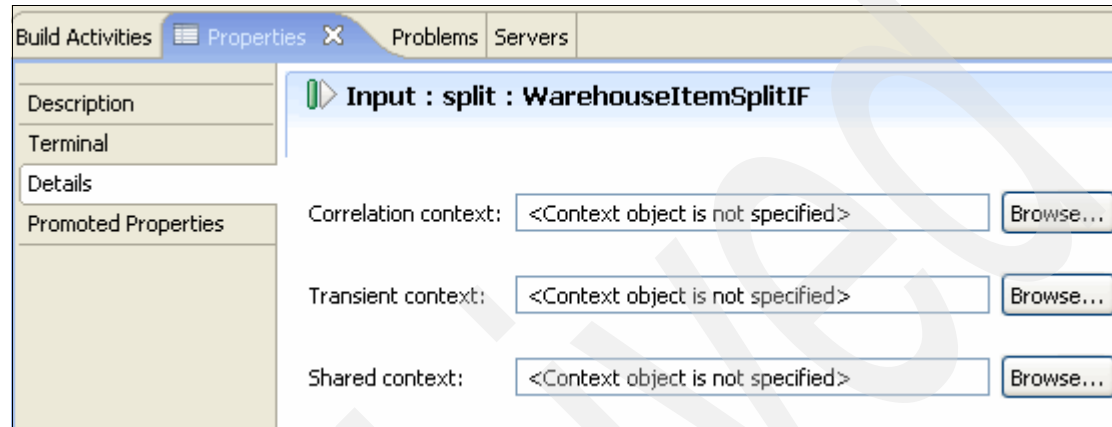

Figure 6-29 Mediation input node with contexts unspecified
1. Select the Input node and access the Details tab of the Properties view, as shown in Figure 6-29.